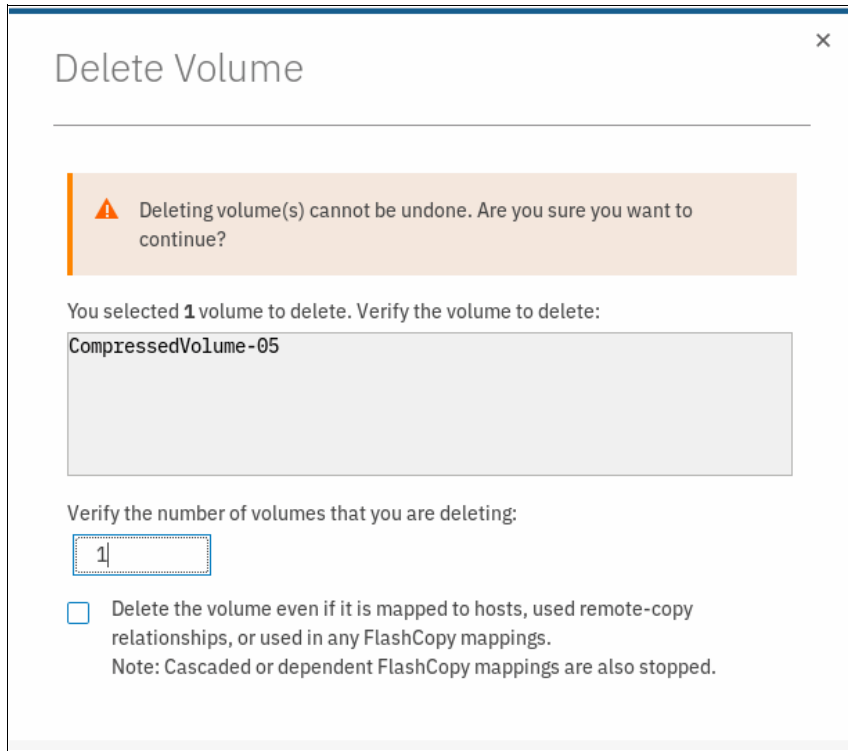

Figure 8-46 Delete Volume window
2. Confirm the number of volumes and select the option if you want to force the deletion. Figure 8-46 on page 417 shows the Delete Volume window.